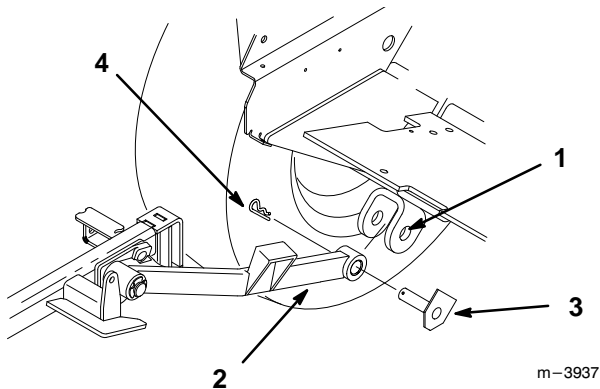

Figure 3
9. Remove hairpin cotters and pivot pin assemblies securing push arms to traction unit pivot brackets (Fig. 3).